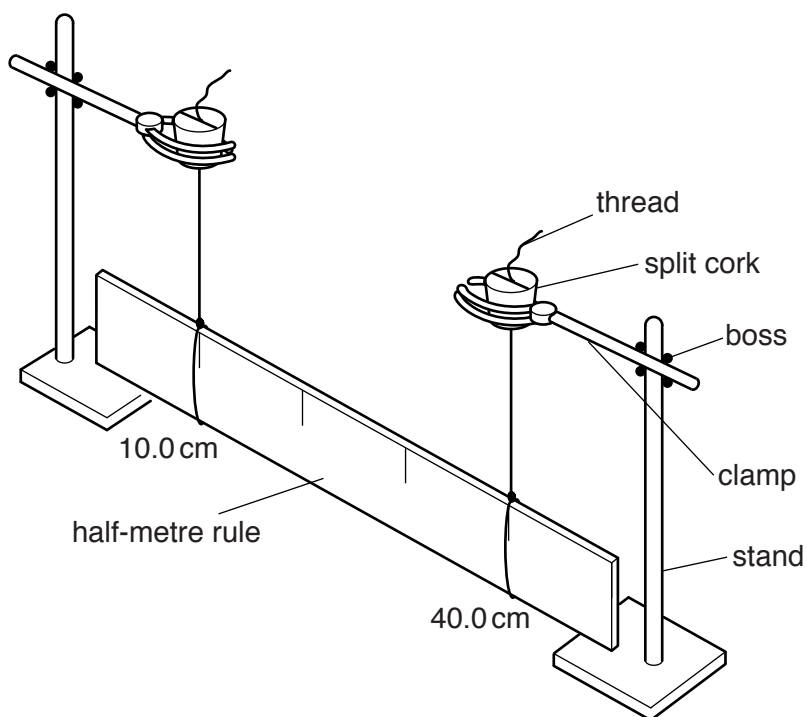

Fig. 2.1
1. Loops should be tied at one end of each thread to support the half-metre rule as shown in Fig. 2.1. The loops should be tied quite tightly around the half-metre rule but **candidates** will need to slide the loops along the rule.
- adjust the apparatus, as necessary, so that it is set up as in Fig. 2.1,